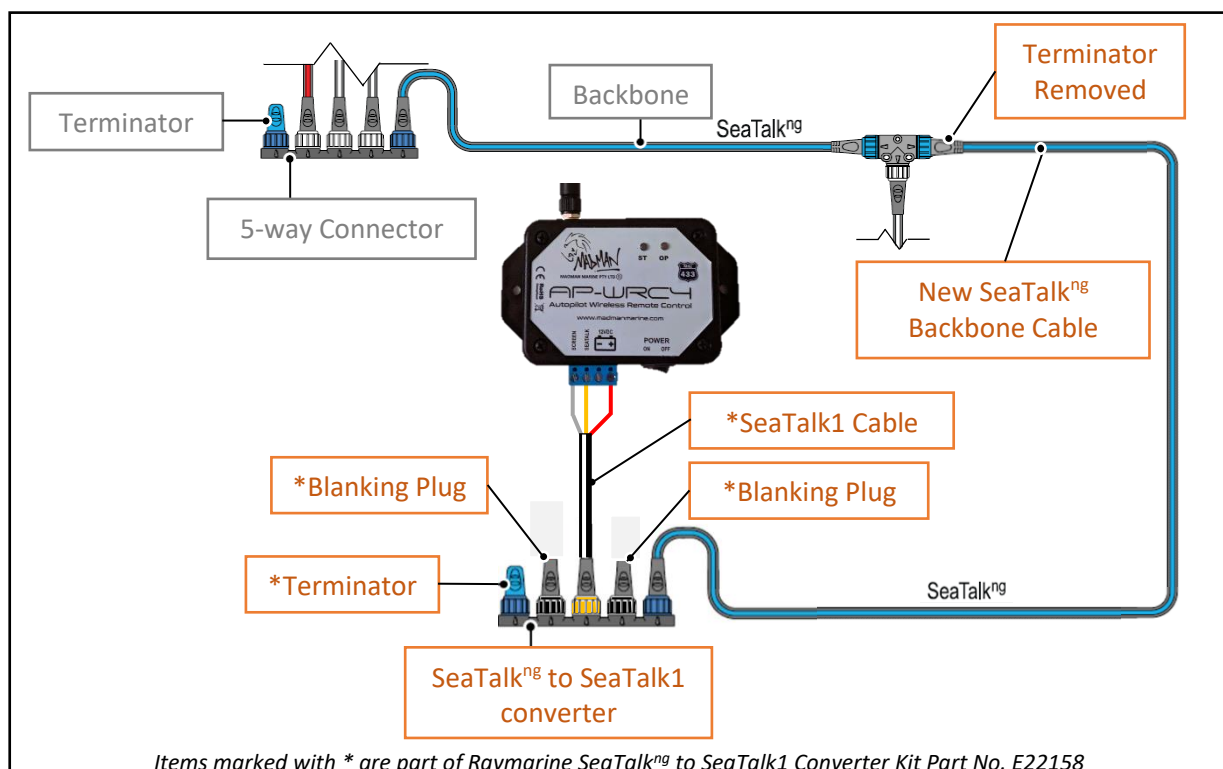

Figure 3 - AP-WRC4 Installation
4. Install the terminator that was removed from the 'Tee' connector on one of the blue ports of the SeaTalk1 to SeaTalk^{ng} converter. Refer to Figure 3 for this and subsequent connections.